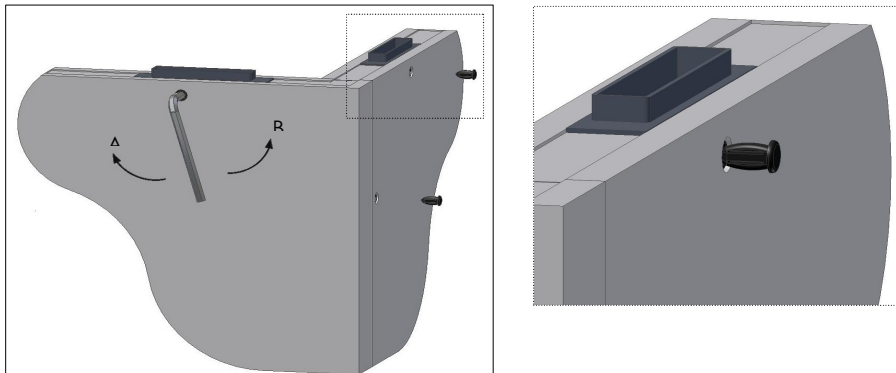

Fig. 11
- Turn the screwdriver like the hands of a clock till it stops. (Fig.11 – Position **A**);
- Turn the screwdriver on the other sense till it fastens. (Fig.11 – Position **B**)
- After fastening, insert the **screw caps** in the holes (Fig. 11).